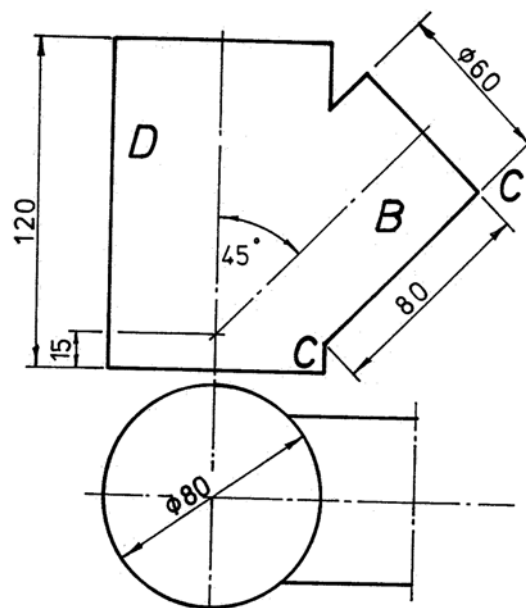

FIG. 2
2. The incomplete elevation and plan of two intersecting pipes are shown in Fig. 2.